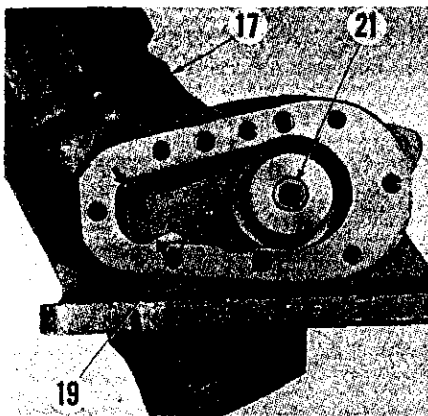

Fig. 28—Rocker shaft can be withdrawn when arm is centered in housing opening as shown. Refer to Fig. 27 for parts identification.
Remove steering arm (15) using Special Tool 1001 or other suitable puller. Remove side cover (23), gasket (20), and rocker shaft end float shim (22). Turn steering shaft until rocker shaft arm is centered in housing opening as shown in Fig. 28, then withdraw rocker shaft.
Assemble the steering gear as follows: Install piston rings (11—Fig. 30), if removed, and rotate rings until end gaps are 180° apart. Align groove (G) with locating pin (13) and carefully install piston using a suitable ring compressor. Position ball nut assembly so that rocker shaft arm slot is aligned with main housing side opening (Fig. 28) and install rocker shaft with spring (21) removed. Temporarily install main housing side cover retaining cap screws (35-45 Ft.-Lbs.); then using a dial indicator, measure and record rocker shaft end float. Remove side cover then reassemble, installing spring (21) and an end float shim (22) which most nearly equals measured end float minus 0.008. Shims (22) are available in thicknesses of 0.050,